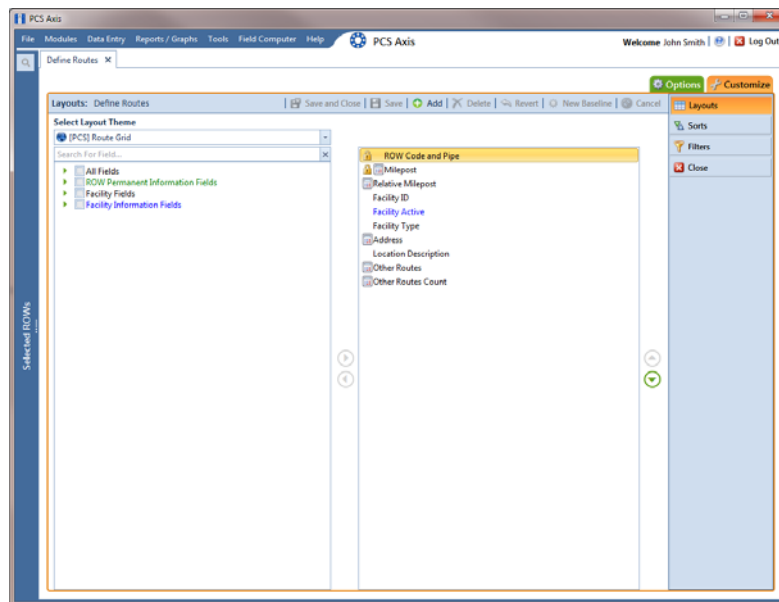

Figure 8-41. Layouts
- 3 Click the **Customize** tab to view the *Layouts* page (Figure 8-41, page 394).
- 3 Click the **Customize** tab  to view the *Layouts* page (Figure 8-41).
- 3** Click the **Customize** tab  to view the *Layouts* page (Figure 8-41, page 394).